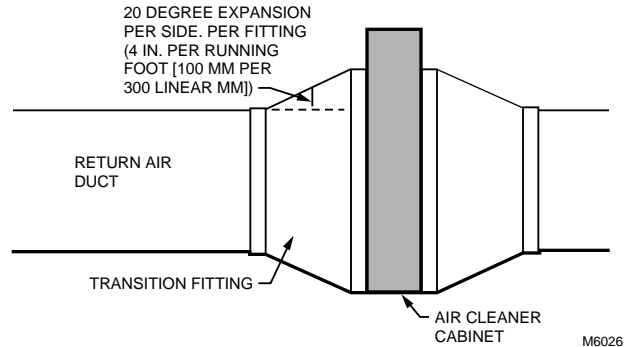

Fig. 11. Change duct size gradually to minimize turbulence.
Transitions are needed when the duct is a different size than the air cleaner cabinet. Gradual transitions reduce air turbulence and increase efficiency. Limit expansion to 20 degrees (about 4 in. per running foot [100 mm per 300 linear mm]) on each side of a transition fitting. See Fig. 11.
- Install a transition when the furnace and air cleaner openings are different sizes. See Fig. 11.
- Install a transition when the opening in the air cleaner cabinet and the duct are different sizes. See Fig. 11.